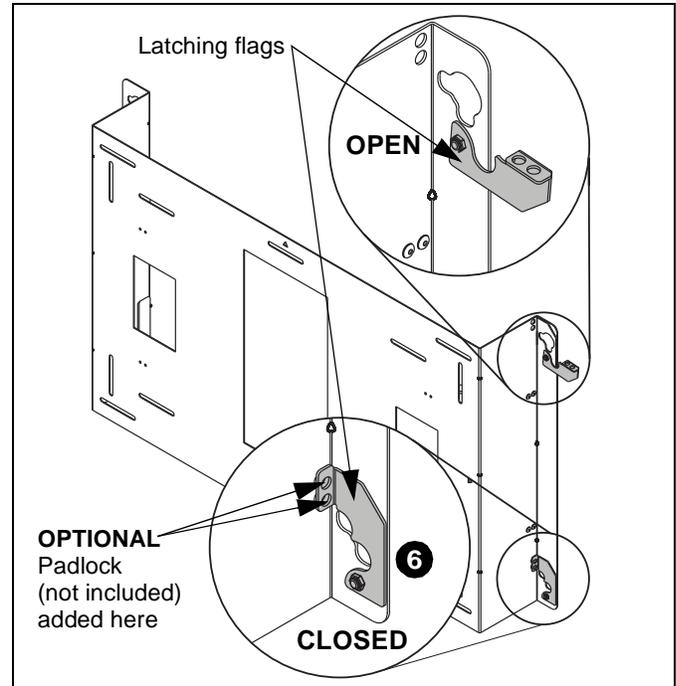

Figure 8
6. Move latching flags to **CLOSED** position. (See Figure 8)
7. **OPTIONAL:** Lock latching flags in place, if desired. (See Figure 8)